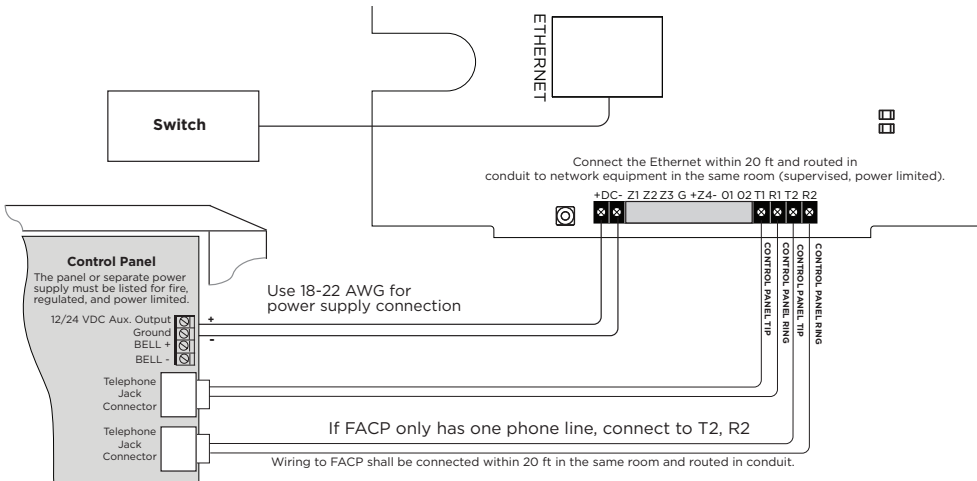

Figure 1: Wiring Diagram for Tip and Ring Connection
Directly connect one or both tip and ring terminals from the control panel to the communicator. Connect the included 100K Ohm EOL across Tip 2 and Ring 2. See Figure 1.
1. Connect the communicator to the FACP as shown in Figure 1 and program the communicator according to the tables above.